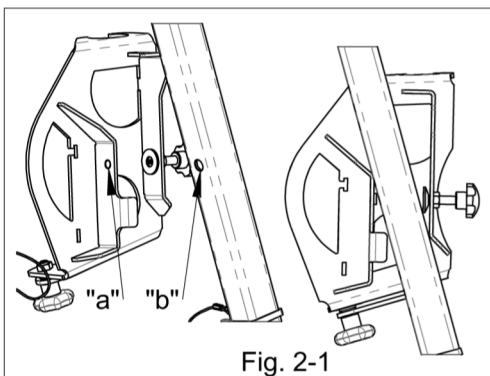

Fig. 2-1
1. Place the bracket to the tripod's leg side - fig. 2-1. Pay attention so that the pin 'a' of the bracket is placed opposite a hole - 'b' placed on bottom surface of the leg.